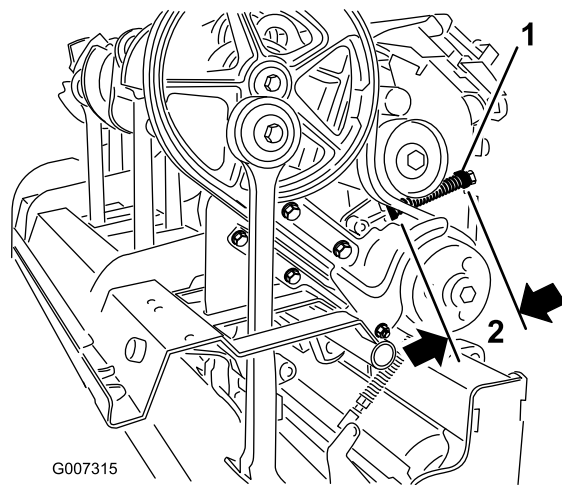

Figure 31
- C. Loosen the lock nut securing the spring retainer (Figure 31).
D. Adjust the spring retainer to attain required compressed spring length (Figure 31).